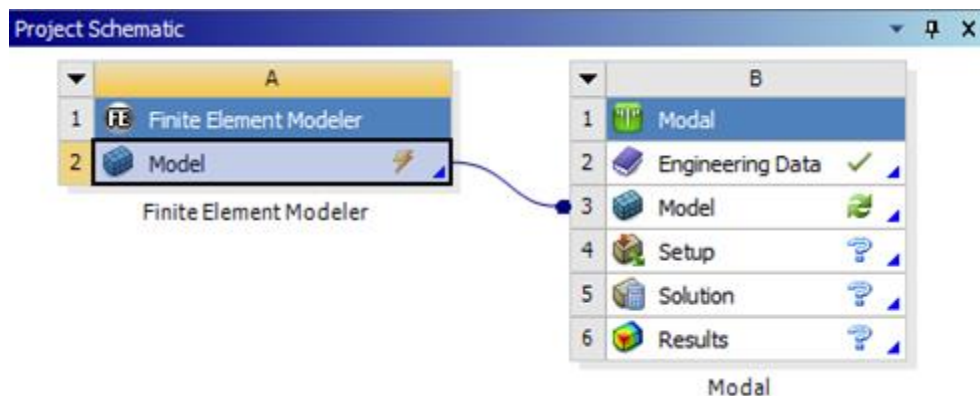

Figure 2.6.
15. Drag the **Model** field of a project in **Finite Element Modeler** on the **Model** field of modal analysis, created in the previous step, Figure 2.6.